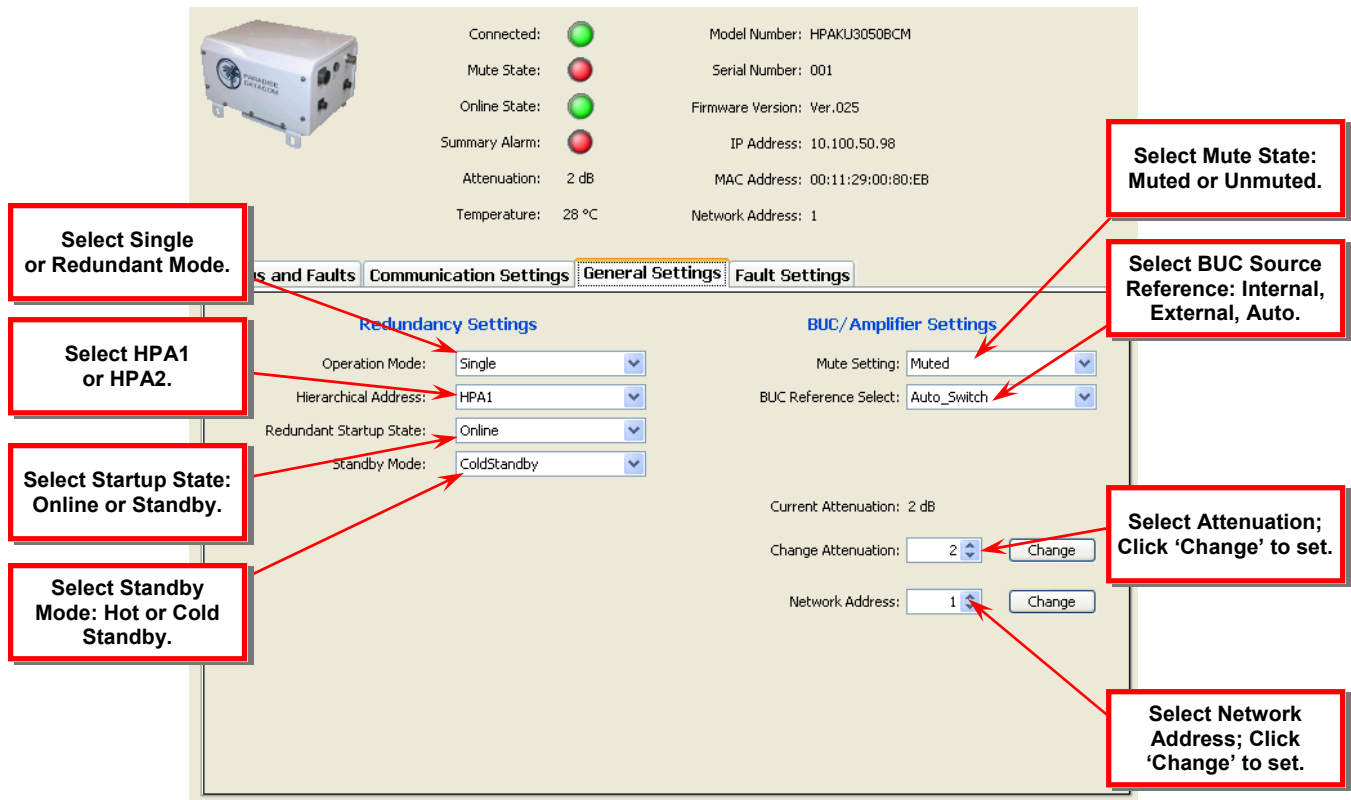

Figure 3-20: General Settings window descriptions
- **General Settings Window:** Displays the SSPA Redundancy and BUC/Amplifier Settings. See **Figure 3-20** for descriptions of the contents of the General Settings window.